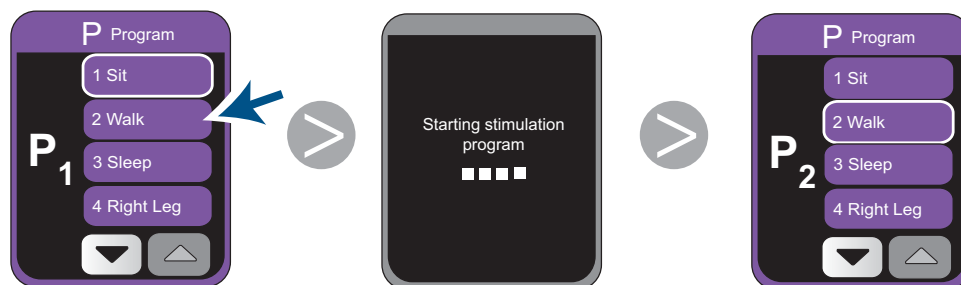

Figure 16. Selecting a program
3. To select a program, tap a program button (*Figure 16*). A notification screen appears while the stimulator ramps down the strength of the current program, then ramps up the strength of the new program.